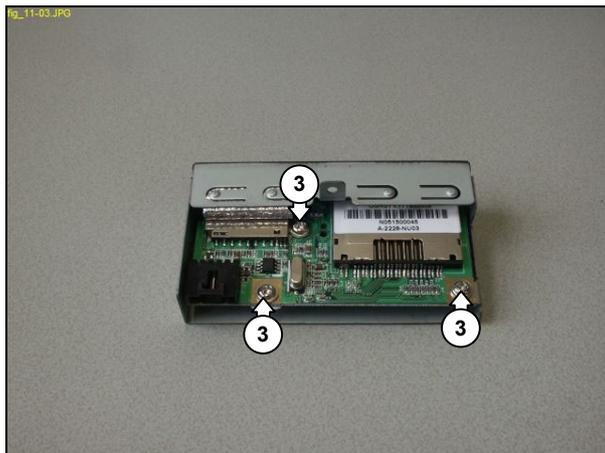

Figure 0-3
2. Remove the 3 mounting screws (3) from the card reader board. See Figure 0-3.